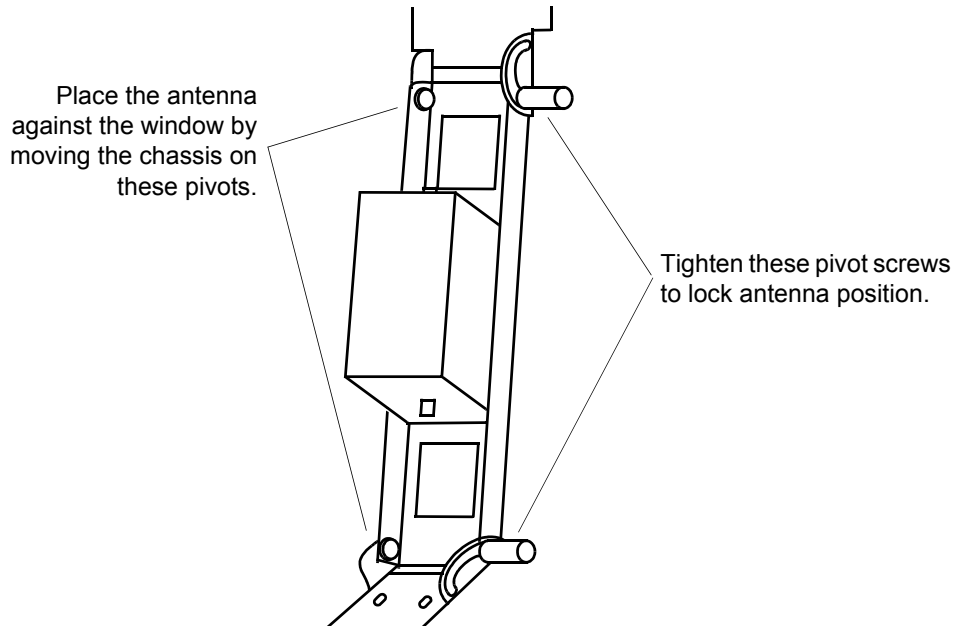

Figure 3-8. Mechanical Window Antenna Pivot Screws
3. Tighten the pivot screws to secure the antenna (Figure 3-8).